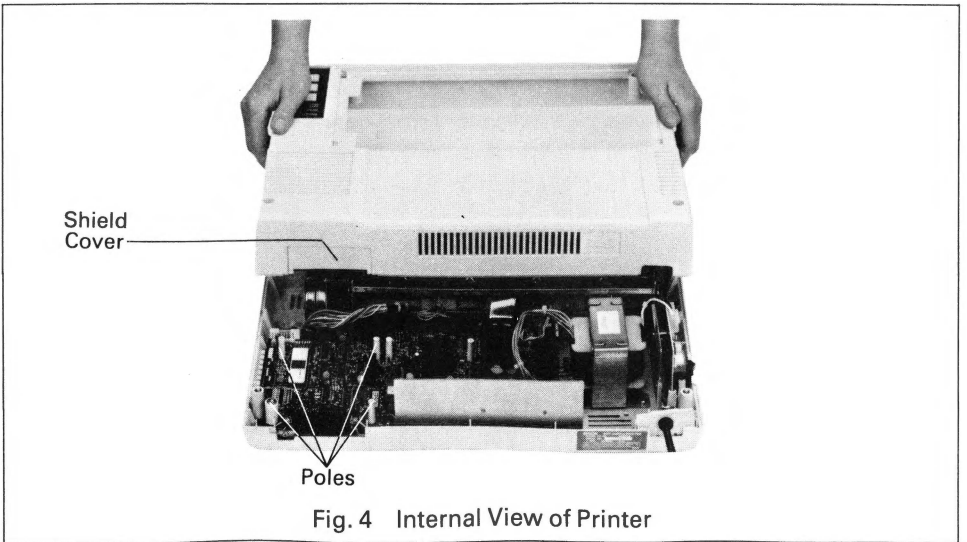

Fig. 4 Internal View of Printer
- (5) Remove the upper case and the shield cover. After the upper case has been removed, four poles are visible at the inner rear left of the printer. (See Fig. 4.)